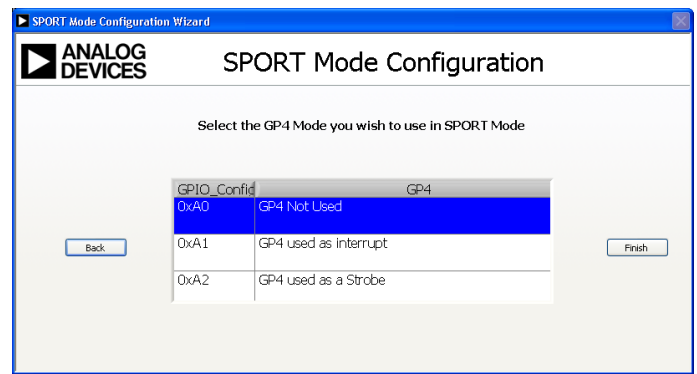

Figure 29
- The next screen allows the user how the GP4 pin should function. (Figure 29) The options are: